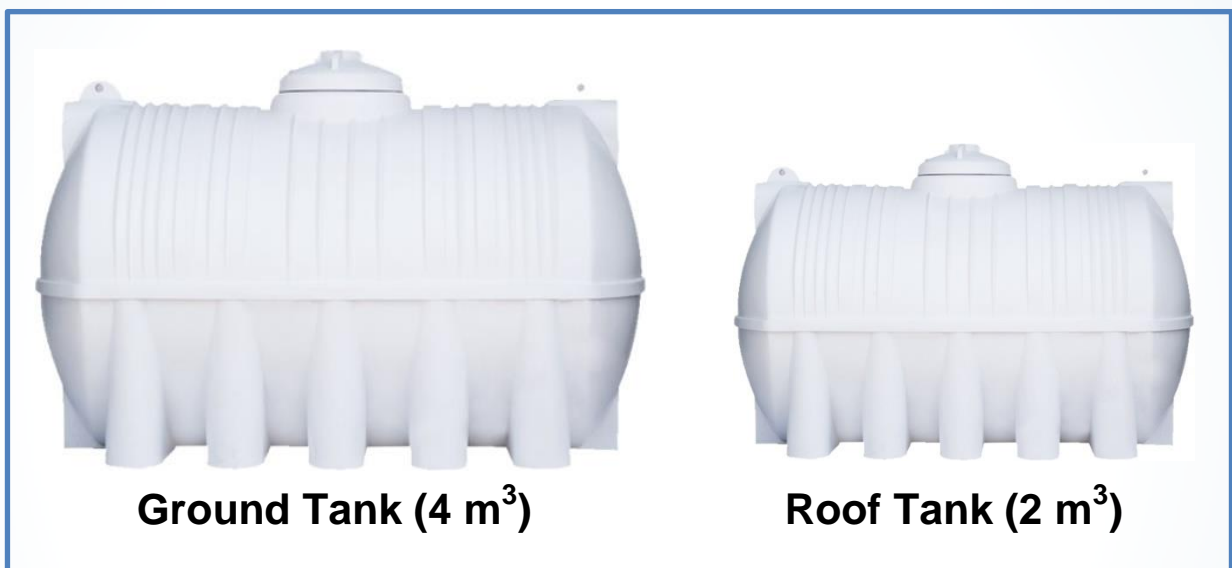

Figure 13
- The storage capacity must be distributed between ground and roof tanks. Ground tank to have twice the storage capacity of the roof tank. Example – a villa requiring total storage capacity of six cubic meters (6m^3) should have the following arrangement: Ground tank of four cubic meter (4m^3) and Roof tank of two cubic meter (2m^3), as illustrated in figure 13.